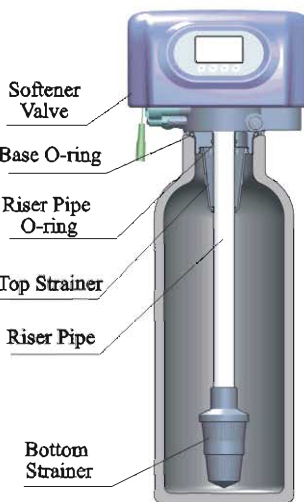

Figure1-1
- ① The filter or softener should be located close to drain.
- ② Ensure the unit is installed in enough space for operating and maintenance.
- ③ Brine tank need to be close to softener.
- ④ The unit should be kept away from the heater, and not be exposed outdoor. Sunshine or rain will cause the system damage.
- ⑤ Avoid to install the system in circumstance of Acid/Alkaline, magnetic or strong vibration, because above factors will cause the system disorder.
- ⑥ Do not install the filter or softener, drain pipeline in circumstance which temperature may drop below 5℃, or above 50℃.
- ⑦ One place is recommended to install the system which cause the minimum loss in case of water leaking.
① Install control valve
a. As the Figure 1-1 shows, select the riser pipe with 26.7mm OD, glue the riser pipe to the bottom strainer and put it into the resin tank, cut off the exceeding tube out of tank top opening. Plug the riser tube in case of mineral entering.